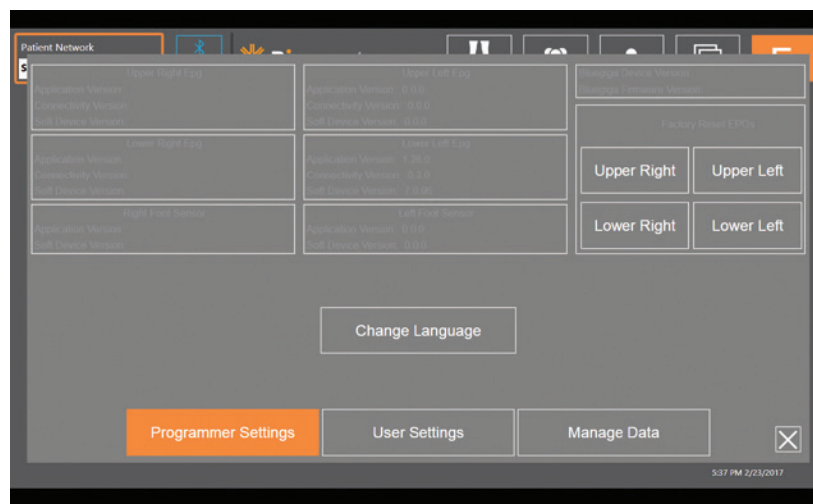

Figure 7-13: Application Settings Screen
The Application Settings screen, accessed via the icon available on each screen on the far right, is used to adjust language settings, manage user profiles, and manage data. The Application Settings Screen consists of three sub-menu screens. See Figure 7-13.
3. Click on Application Settings  and select Software Version to view the factory reset options. See Figure 7-13.